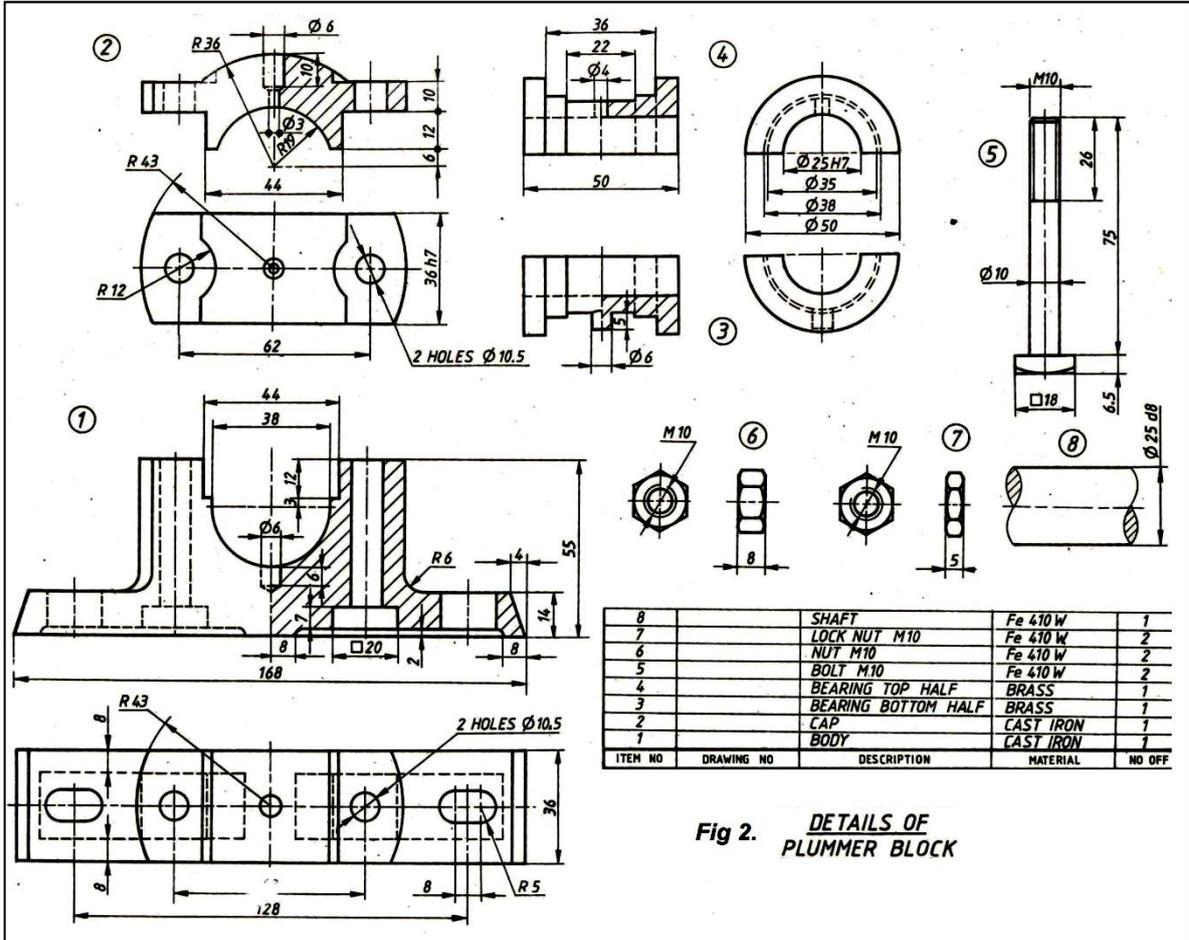

Fig 2. DETAILS OF PLUMMER BLOCK
Q.5 The component parts of a plummer block are shown in fig.2. Prepare the front view in section of the assembly. 14